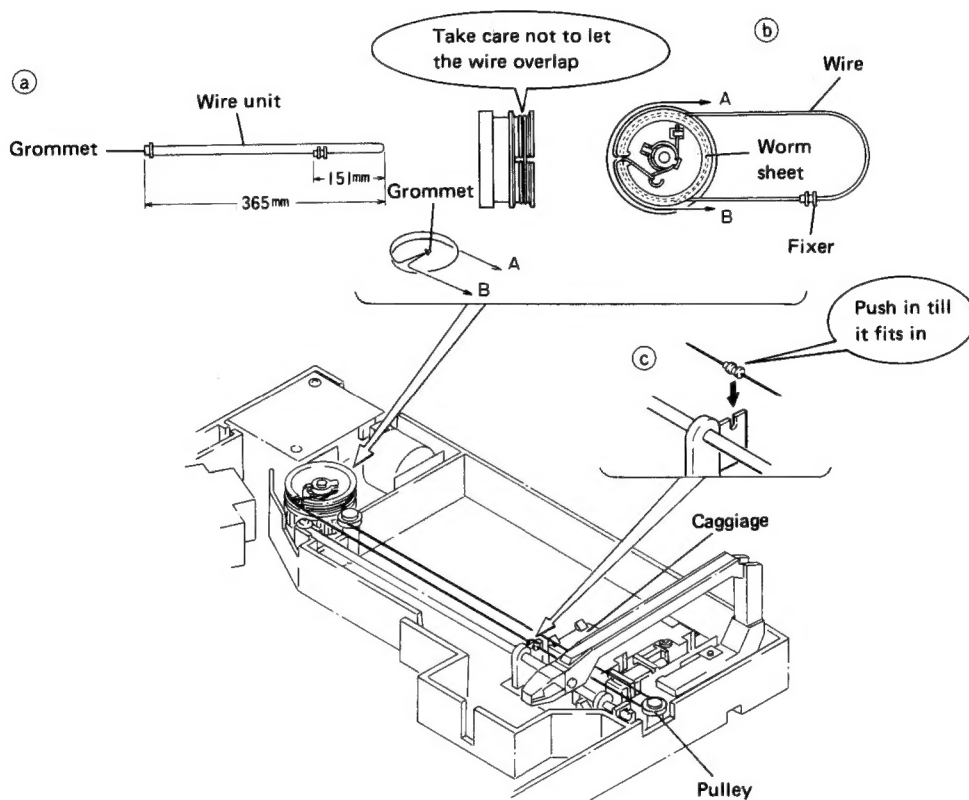

Fig. 3-4 Wire Replacement
1. Adjust the length of the wire unit as shown in figure 3-4 (a).
2. Attach the wire unit grommet to the spring of the wormwheel as shown in figure 3-4 (b). Then wind the wire onto the worm wheel taking care not to let it get caught in the worm wheel groove. Also be careful not to let the wire overlap.
4. As shown in figure 3-4 (c), put the wire around the pulley, and push the fixer into the carriage until it locks with a click.